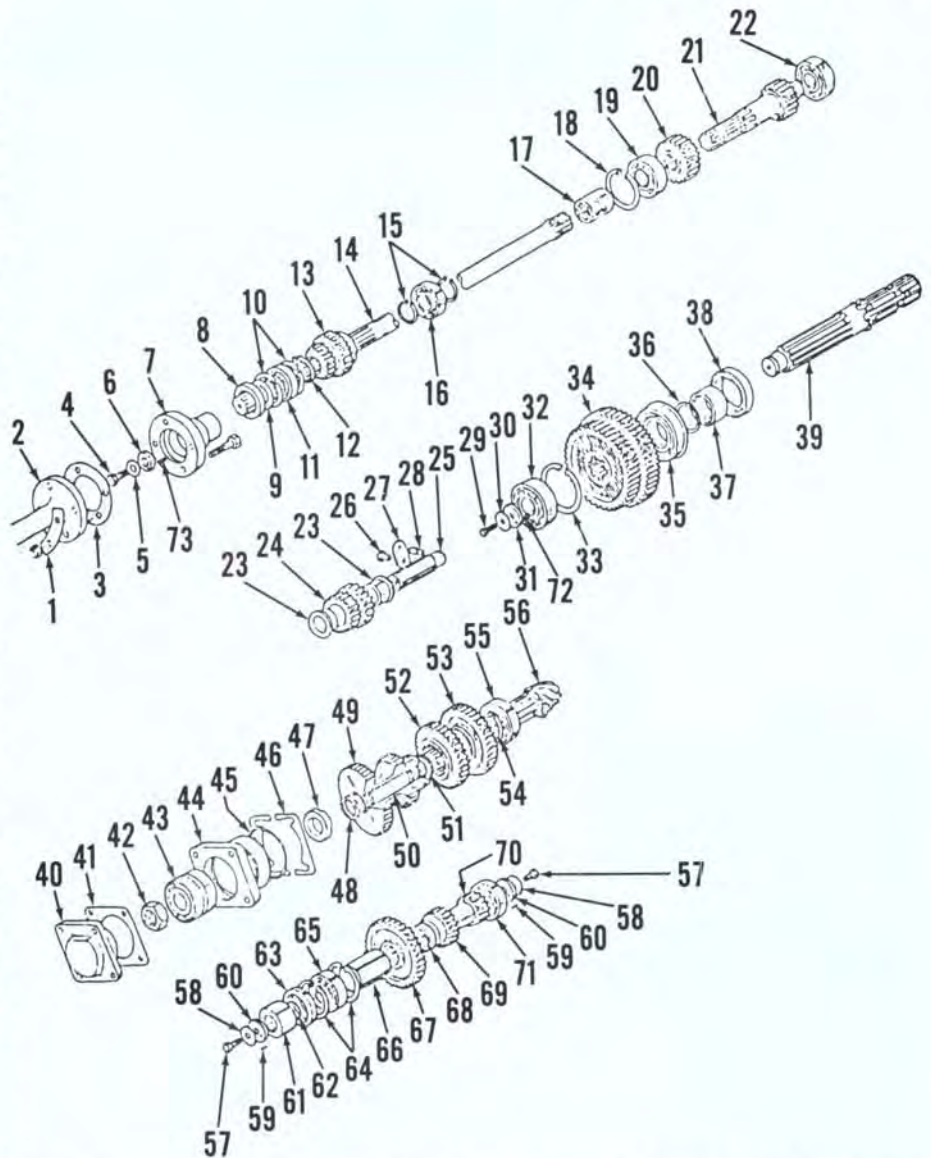

Fig. 102—Exploded view of transmission gears and shafts of the type used on Model L210. View shows relative installed position.
slight amount and remove bolts securing retainer (2—Fig. 102) to input shaft flange; slide clutch shaft forward into clutch housing then complete separation of tractor halves.
109. TRANSMISSION INPUT SHAFT. Transmission input shaft (14—Fig. 102) can be removed from front after tractor split as outlined in paragraph 106 and removal of both transmission top covers. Coupling retaining cap screw (4) is left-hand thread. Remove screw and coupling then pry out input shaft front oil seal. Remove range shift fork and rail as outlined in paragraph 108. Unseat snap rings at front of bearings and withdraw input shaft forward out of housing. Install by reversing removal procedure.
110. OUTPUT (BEVEL PINION) SHAFT. To remove output shaft (56—Fig. 102), first remove transmission as outlined in paragraph 107, differential as in paragraph 121, shift rails and forks as in paragraph 108 and transmission input shaft as in paragraph 109. Remove output shaft front cover and shaft nut, then using a brass or aluminum drift, bump output shaft rearward and out of housing bore and gears. Be careful not to damage needle bearings in range cluster gear as shaft is drifted rearward. Keep shim pack (46) together and protect from damage as parts are removed. Shim pack controls mesh position of bevel gears and removed shim pack must be reinstalled or mesh position adjusted as outlined in paragraph 125. Check needle bearing races on pinion shaft and range cluster gear for chatter wear or scoring and front and rear bearings for roughness. Range cluster gear should not have more than 1.0mm (0.040 inch) end play when installed. Renew front and/or rear thrust spacers if clearance is excessive.
111. COUNTERSHAFT. Countershaft (70—Fig. 102) can be removed from rear after first removing output shaft as outlined in paragraph 110 or countershaft as in paragraph 111. Remove locking cap screw, retainer and headless set screw from rear shaft boss and bump shaft forward out of gear. Assemble by reversing disassembly procedure.
112. REVERSE IDLER. Reverse idler assembly (24 and 25—Fig. 102) can